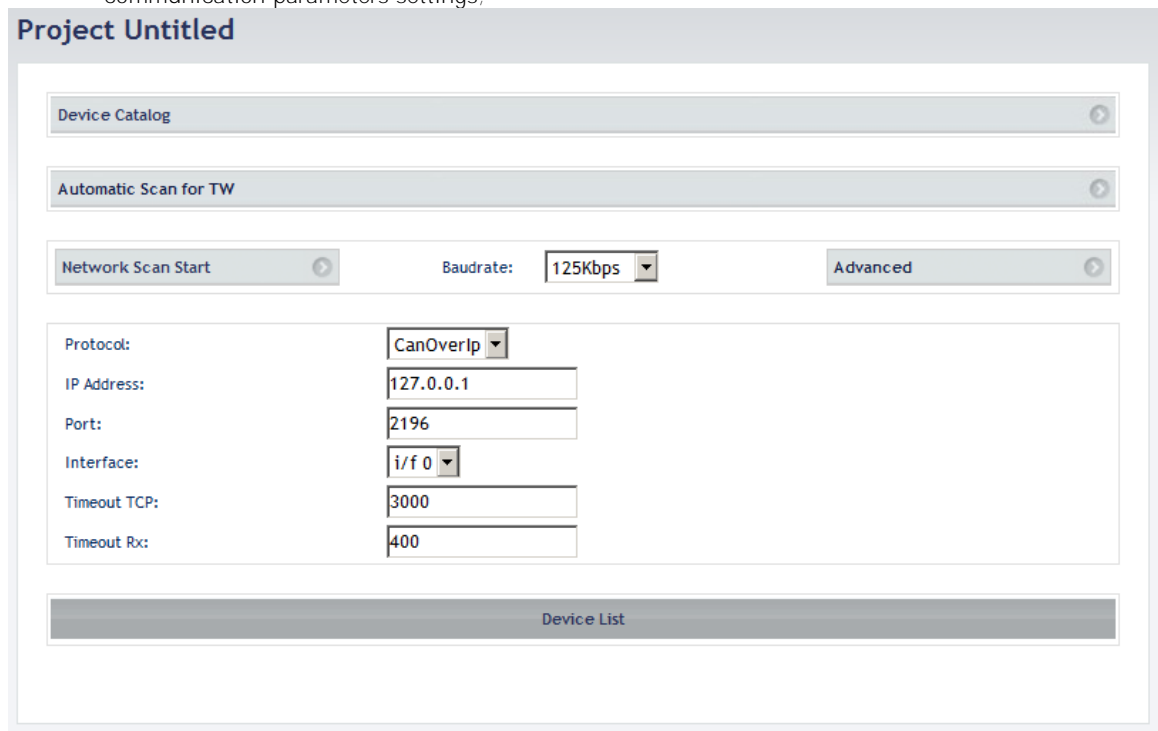

Figure 18 – Automatic network scan for Tw
- Press the “Advanced” bar to check the communication setup parameters before starting scanning in Figure 18. CanOverIp is the default protocol for Tw series. Refer to Chapter 6 for more details on communication parameters settings;